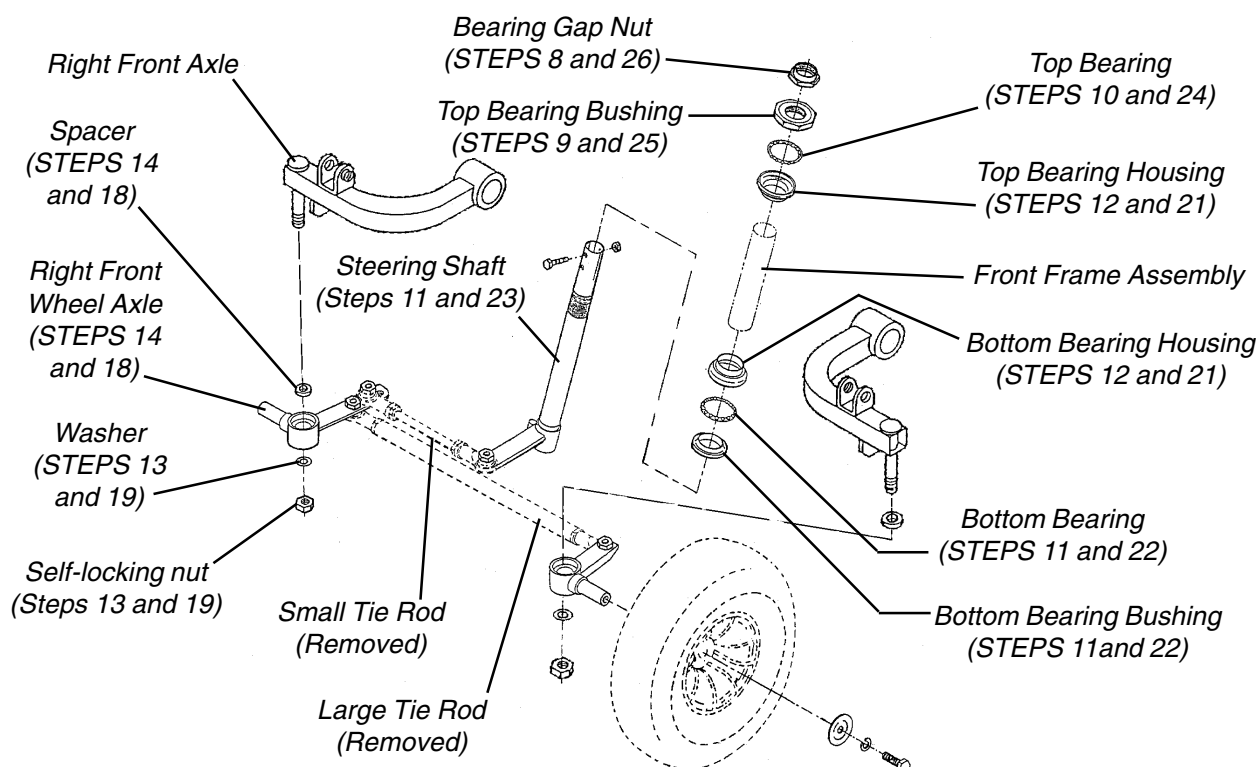

FIGURE 6 - REPLACING TIE ROD ASSEMBLY - PANTHER MX - 4
Panther MX - 4 (FIGURE 6)
*NOTE: Before installing the **NEW** tie rod assembly, be sure it is in the proper direction (FIGURE 6).*
- NOTE: Before installing the **NEW** steering shaft, be sure it is facing toward the tie rods (FIGURE 6).*